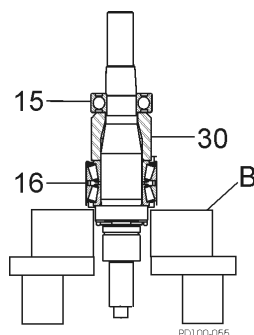

Figure 76 - Remove Bearings from Shaft
- Use a hydraulic press and V-blocks (Figure 76, item B) to remove the bearings (items 15 and 16) and spacer (item 30)